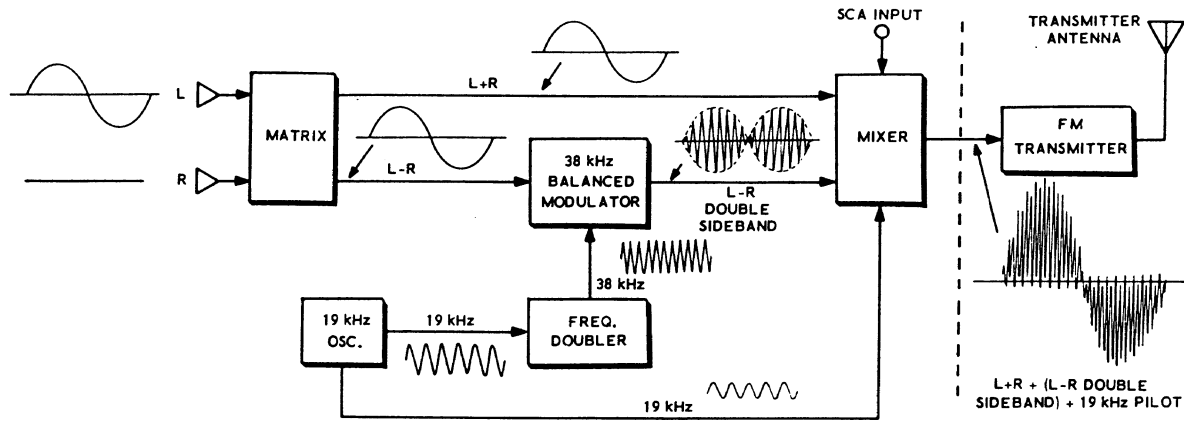

Figure 13
Figure 13 is a simplified Block Diagram of an FM stereo transmitter. Two separate audio signals are applied to the matrix circuit. One of these signals represents the left channel (L) and the other the right channel (R). In Figure 13, a sine wave is applied to the matrix circuit as the left channel audio signal; no right channel signal is applied. (Even though the right channel signal input is zero, it is used as a reference point to develop output signals from the matrix circuit.) The matrix circuit combines the L and R signals into L+R and L-R signals. The L+R signal is the main channel and is applied directly to the mixer circuit. The L-R signal is the subchannel, and is combined with a 38 kHz subcarrier to provide an L-R double-sideband, suppressed-carrier signal. This is done in the 38 kHz balanced modulator circuit.